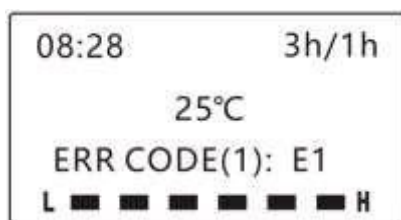

Figure 14
- d. Fault reset when "ERR Code (1): E1" icon shown on LCD screen, as figure 14, check the fault code table, according to the excluded method, long press  button, Error code disappears.